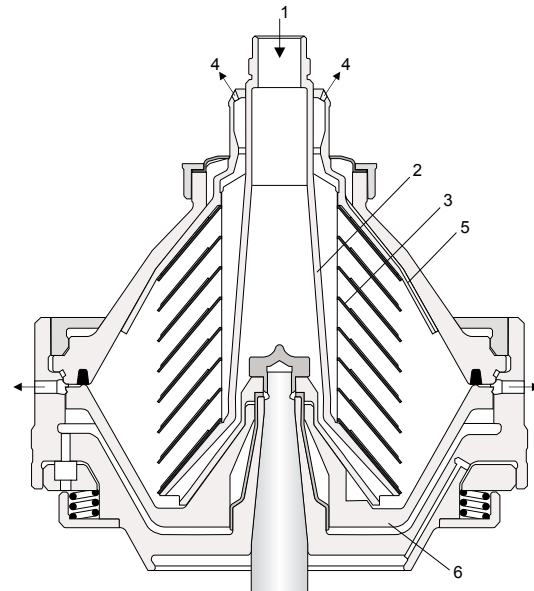

Fig. 2 Typical bowl drawing for a solids-ejecting centrifuge. Drawing details do not necessarily correspond to the centrifuge described.
Separation takes place inside a rotating bowl. The oil is introduced to the rotating centrifuge bowl (fig 2) from the top via a stationary inlet pipe (1), and is accelerated in the distributor (2), which is specially designed to ensure smooth acceleration of the feed liquid. Leaving the distributor, the oil enters the disc stack (3). The separation of oil–water–solids takes place between the discs, with the oil phase moving through the disc stack to the center and is discharged into the upper collecting frame (4). The water and heavy solids separated from the oil moves out to the periphery, the water is led via channels in the top disc (5) to the lower collecting frame. The solids are collected in the periphery, from where it is discharged intermittently into the solids collecting cover below the bowl. The solids discharge is achieved by a hydraulic system which at preset suitable intervals forces the sliding bowl bottom (6) to drop down and thus opening the solids ports at the bowl periphery.